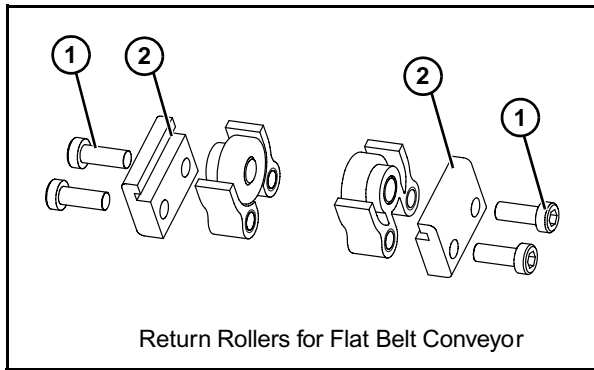

Figure 16
1. Locate return rollers. Exploded views shown in (Figure 16) & (Figure 17).
2. Remove screws (Figure 16, item 1) & (Figure 17, item 1) and clips (Figure 16, item 2) & (Figure 17, item 2) from roller assembly.